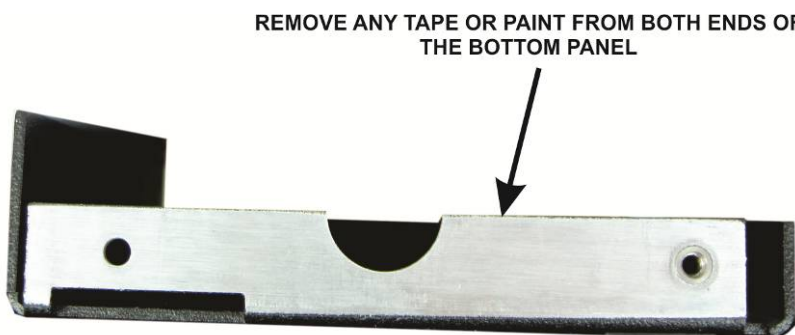

Figure 40. Rear Panel Ends Cleaned.
- Unwrap the bottom panel and clean away tape or paint from both ends as shown in Figure 40.